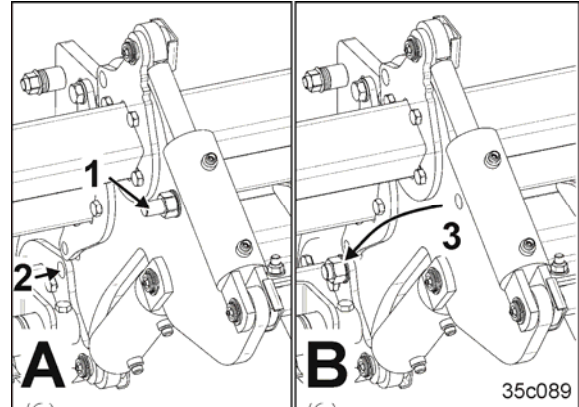

Fig. 190
Locking bolt (Fig. 190/1)
- The locking hole is fully visible (Fig. 190/2).
2. Take the locking bolt out of the parking position, insert in the locking position (Fig. 190/3) and tighten.